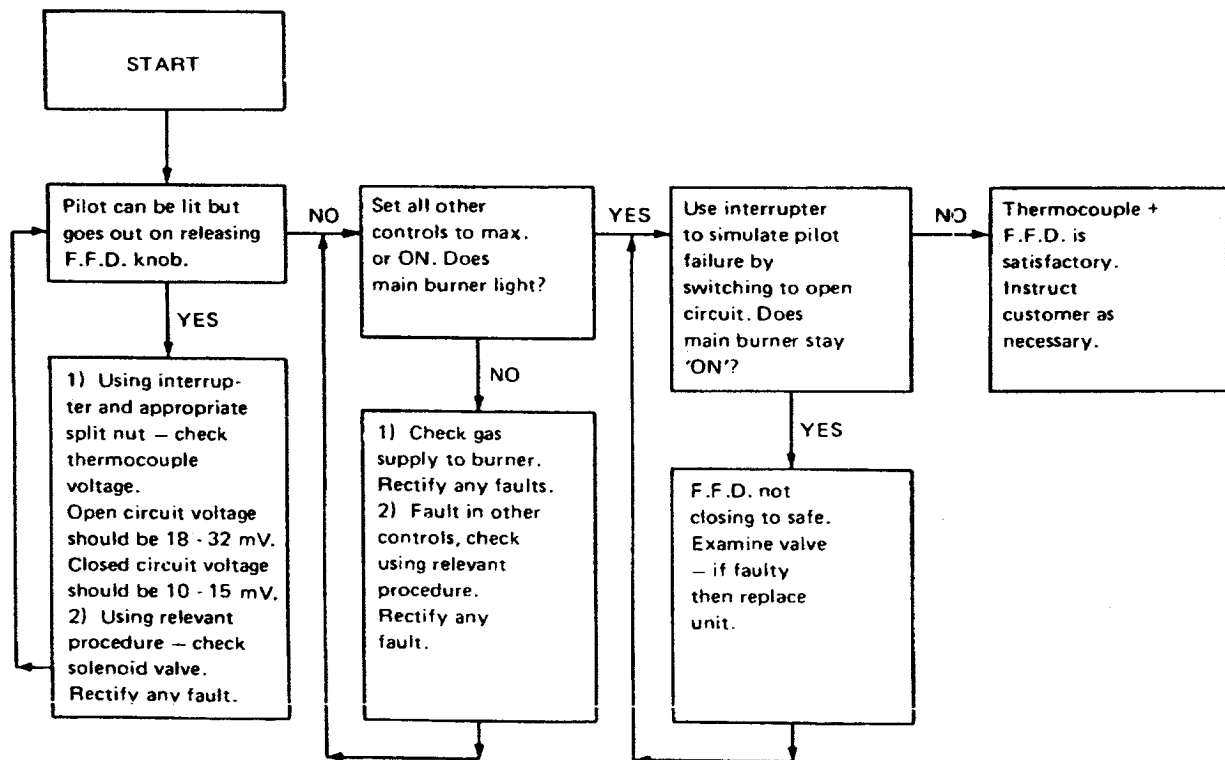

FIG. 15 F.F.D. AND THERMOCOUPLE
| B. Main burner fails to light and pilot is extinguished when pressure on the control knob is released | <p>(1) Control knob not held down long enough</p> <p>(2) Loose thermocouple connection into control valve.</p> <p>(3) Partially blocked pilot filter or pilot injector.</p> <p>(4) Failure of thermocouple, power unit or latching mechanism</p> | <p>Control button must be fully pressed down for 20 seconds before main valve can be energised.</p> <p>Tighten thermocouple union nut finger tight plus ¼ turn only. Ensure connection is clean and dry. TOO MUCH PRESSURE MAY DAMAGE INSULATION AND CAUSE FAILURE.</p> <p>As item A(3) and A(4).</p> <p>After pilot has been on for 20 seconds, release control knob. If pilot goes out:—</p> <p>(a) Change thermocouple, see Section 8.D and try to light pilot, if still failed then:— Power unit or latching mechanism has failed therefore:—</p> <p>(b) Change control valve, see Section 8.E. (See Fig.15 F.F.D. and Thermocouple).</p> |